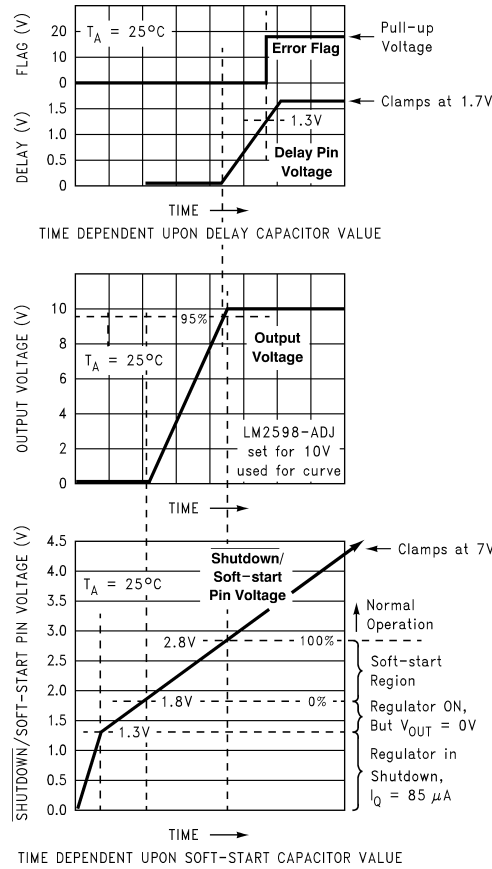
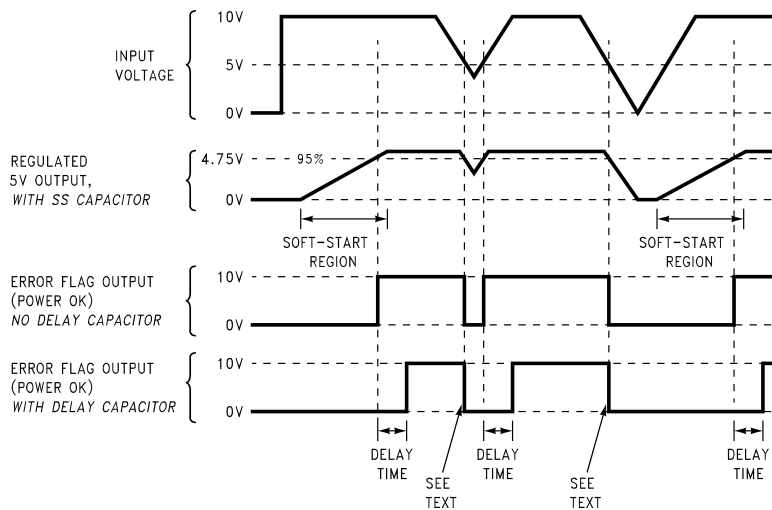

Figure 30. Soft-start, Delay, Error, Output
Figure 31. Timing Diagram for 5V Output
**CSS** — A capacitor on this pin provides the regulator with a Soft-start feature (slow start-up). When the DC input voltage is first applied to the regulator, or when the Shutdown /Soft-start pin is allowed to go high, a constant current (approximately 5 μA) begins charging this capacitor. As the capacitor voltage rises, the regulator goes through four operating regions (See the bottom curve in Figure 30).
- Soft-start Region.** When the  $\overline{SD}$  /SS pin voltage is between 1.8V and 2.8V (@ 25°C), the regulator is in a Soft-start condition. The switch (Pin 1) duty cycle initially starts out very low, with narrow pulses and gradually get wider as the capacitor  $\overline{SD}$  /SS pin ramps up towards 2.8V. As the duty cycle increases, the output voltage also increases at a controlled ramp up. See the center curve in Figure 30. The input supply current requirement also starts out at a low level for the narrow pulses and ramp up in a controlled manner. This is a very useful feature in some switcher topologies that require large startup currents (such as the inverting configuration) which can load down the input power supply.
**Note:** The lower curve shown in Figure 30 shows the Soft-start region from 0% to 100%. This is not the duty cycle percentage, but the output voltage percentage. Also, the Soft-start voltage range has a negative temperature coefficient associated with it. See the Soft-start curve in the Electrical Characteristics section.
**CDELAY** — Provides delay for the error flag output. See the upper curve in Figure 30, and also refer to timing diagrams in Figure 31. A capacitor on this pin provides a time delay between the time the regulated output voltage (when it is increasing in value) reaches 95% of the nominal output voltage, and the time the error flag output goes high. A 3  $\mu$ A constant current from the delay pin charges the delay capacitor resulting in a voltage ramp. When this voltage reaches a threshold of approximately 1.3V, the open collector error flag output (or power OK) goes high. This signal can be used to indicate that the regulated output has reached the correct voltage and has stabilized.